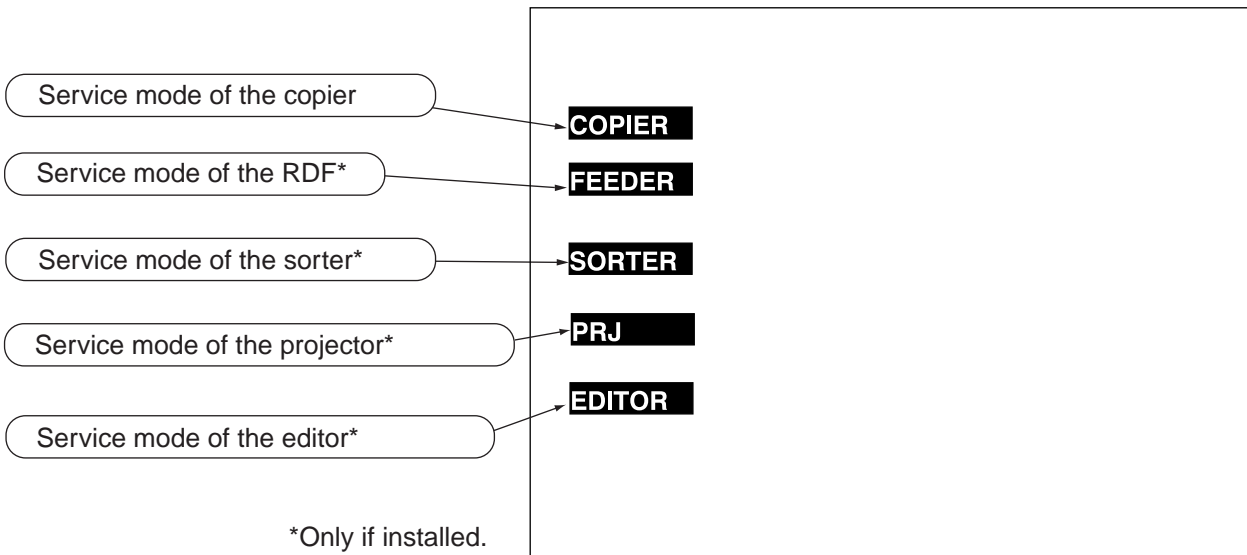

Figure 4-3 Initial Screen
- Press the Reset key once to bring back the service mode Initial screen (Figure 4-3).